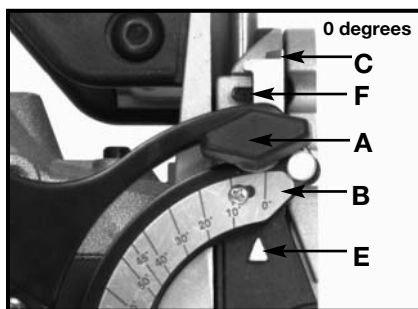

Fig. 6
Angle Adjustment (see Figs. 6, 7, 8 & 9)
The adjustable 90° stop is factory adjusted for 90° and should not require additional adjustment. If “fine tuning” of the stop position is required: use a $\frac{5}{64}$ " hex wrench (not furnished), to rotate set-screw (F) Fig. 6, as required. Rotate the set-screw clockwise to reduce the angle of the fence, rotate the set-screw counterclockwise to increase the angle of the fence.